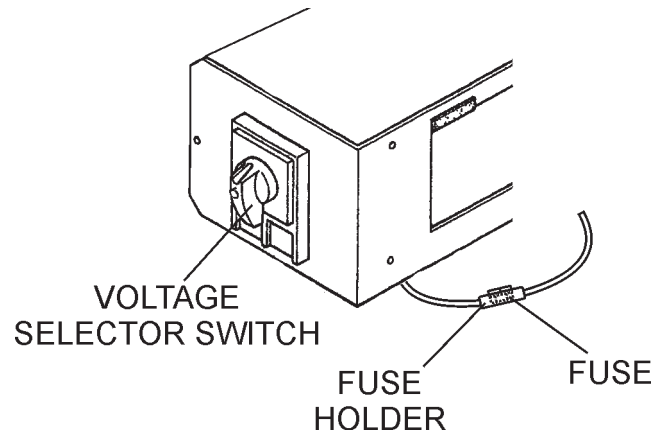

Figure 15. Blower Fan Fuse
This unit has an intake fan located at the rear of the machine to draw outside air into the cabinet to cool the engine. The fan has a 10 amp AC fuse located beneath the **Voltage Selector Switch** (Figure 15).
A wide range of voltages are available to supply voltage for many different applications. Voltages are selected by using the **voltage selector** switch (Figure 15). To obtain some of the voltages as listed in Table 6 (see below) will require a fine adjustment using the **voltage regulator (VR) control knob** located on the control panel.